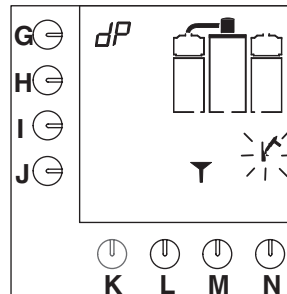

Fig. 19 Coffee-making system asks for descaling solution
- A signal sounds, the hammer symbol flashes and a funnel appears on the display (fig.19).